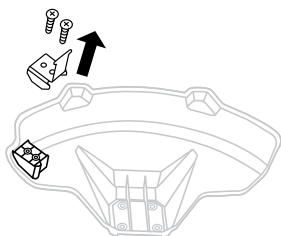

Fig. 6A
2. Remove both screws on the cut-off blade with a hex wrench. (Fig. 6A)
3. Rotate the cut-off blade 180°. (Fig. 6A)